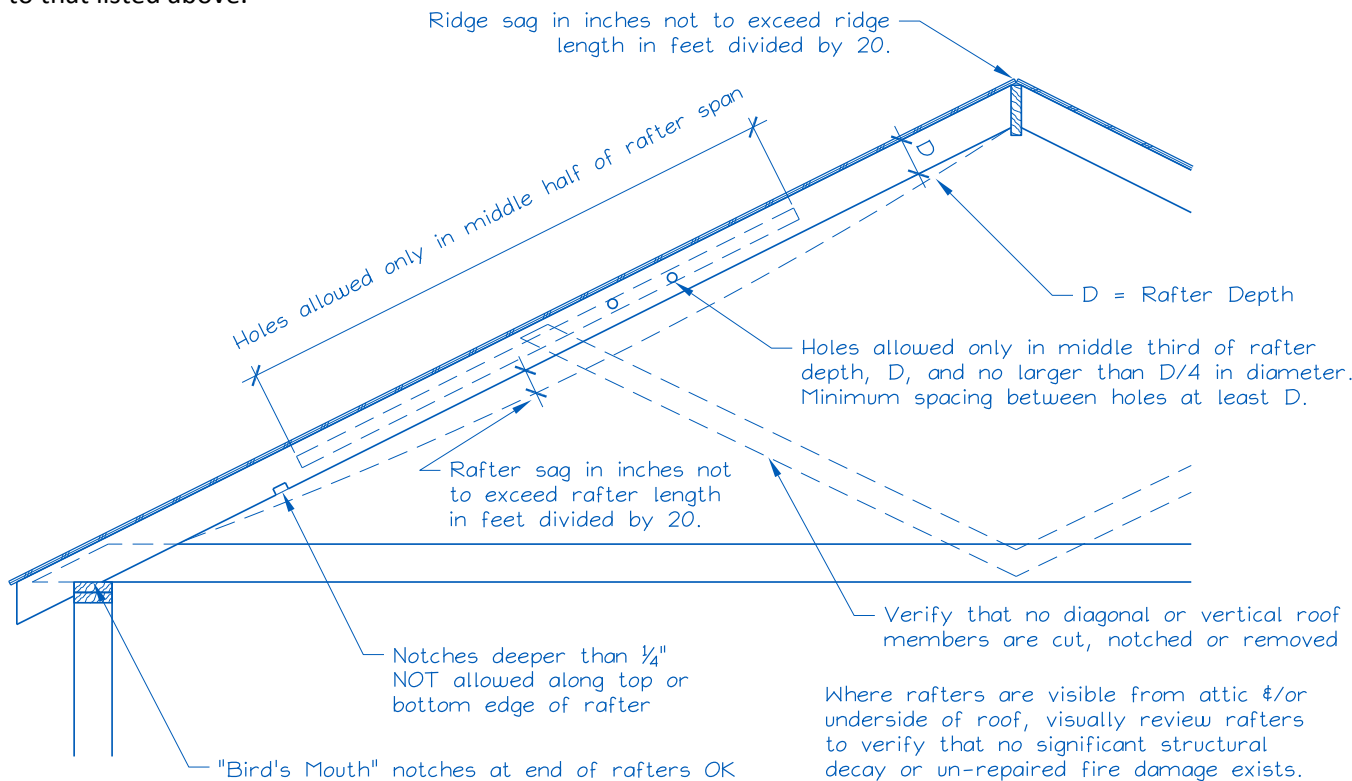

Figure 1. Roof Visual Structural Review (Contractor's Site Audit) of Existing Conditions.
- 2) Does the roof structure appear structurally sound without signs of alteration, structural deterioration, or sagging, as illustrated in Figure 1? Y N